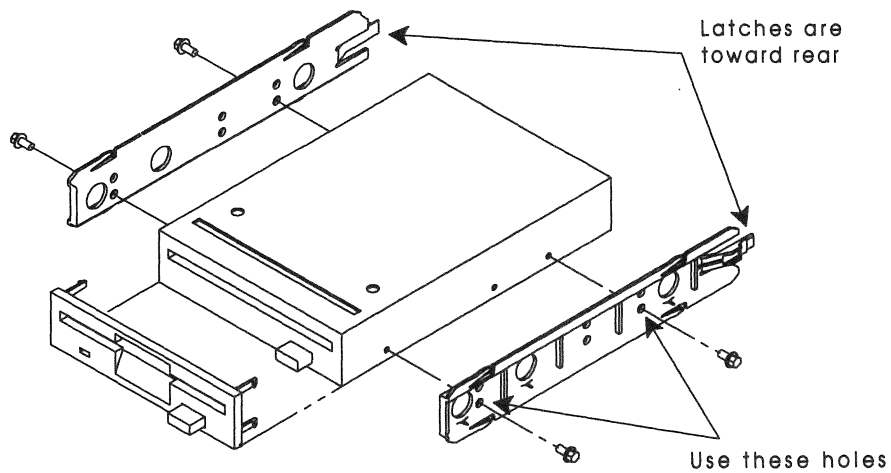

Figure 3-2. Diskette drive installation
- **To install a 3½ inch drive into a 3½ inch bay**, use the mounting kit for a 3½ inch bay. Refer to Figure 3-2 on page 3-14. Attach the two slide rails with the four screws provided in the mounting kit. (Shock mounting is not possible with this combination.)